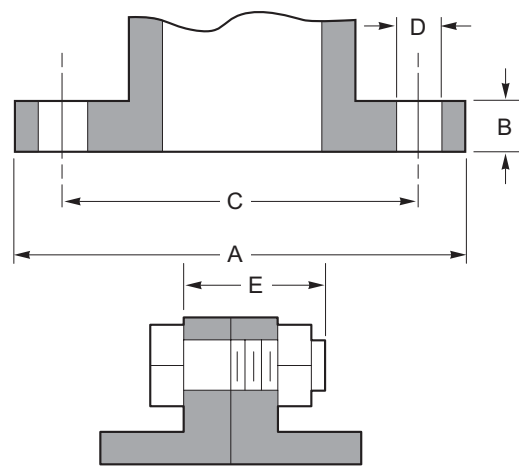

Figure 4 Flange Dimensions
- Figure 1 shows the proper way a flanged valve should be mounted. See Figure 4 for flange and flange bolt details.
Table 4 Flange Detail for American Standard 125 psi Cast Iron Pipe Flanges (Figure 4)